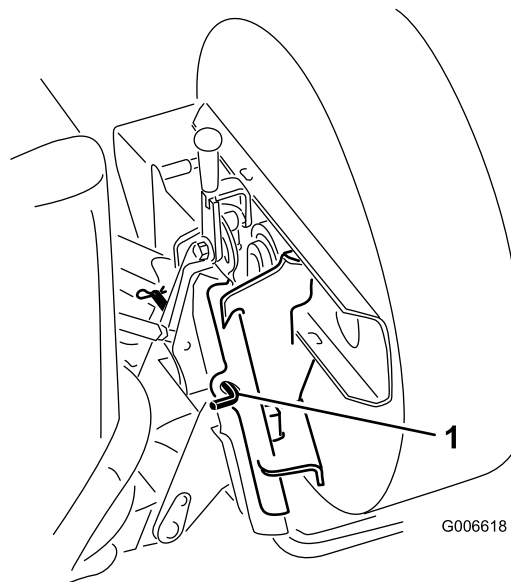

Figure 5
5. Insert the locking pin through the adapters and secure with a hairpin cotter (Figure 5).